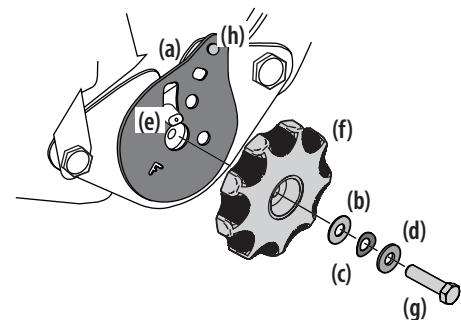

Figure 2-12
7. Remove the seat tilt knob assembly from the bag and install as shown in Figure 2-12.
Note: Be sure to orient the recliner plate (a) and install the plastic washer (b), spring washer (c) and metal washer (d) as shown in Figure 2-12. The plastic washer is on the inside.
8. Slide the recliner bearing plate (a) onto the recliner pin (e). Refer to Figure 2-12.